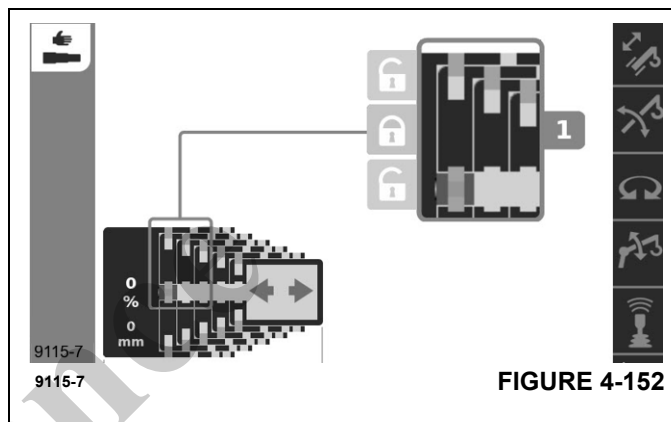

FIGURE 4-152
- The Manual Mode shows an expanded view of the telescoping cylinder pinning mechanism with the same unlock icons and a lock icon, as seen in Figure 4-152 (instead of the requested final boom configuration values for the Semi-auto Mode). When one of the unlock or lock icons becomes available to be selected (changes from the basic gray color to the focus color), then the operator can request the unlock command or the lock command. The top unlock icon is for the boom section unlocking, and at the proper time the lock icon would be used to again lock the boom section (the lock icon will become available as a command when the control system allows it). The bottom unlock icon is for the